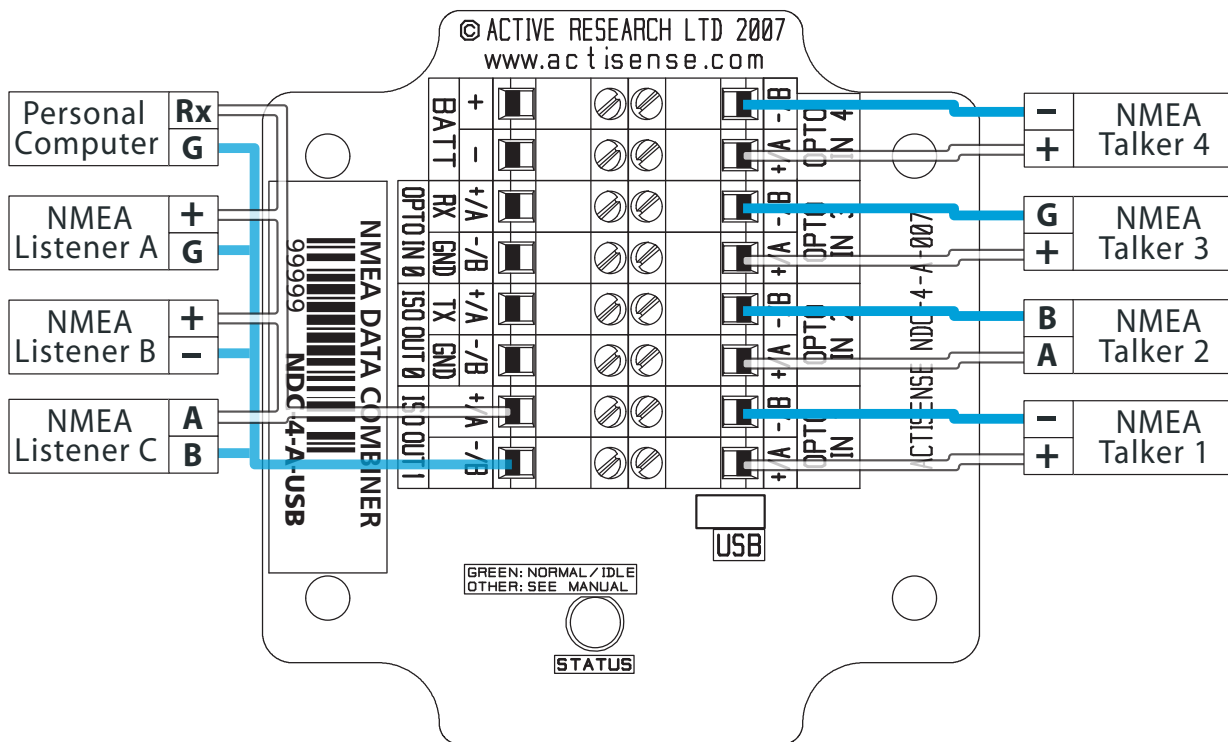

Figure 2 – NMEA 0183 connections
**NMEA Talker devices 1, 2 and 4:** These devices conform in full to the NMEA 0183 standard. Devices 1 and 4 share the same connection ID's as the **Actisense** NDC, so connection is a simple matter of matching the ID's (refer to figure 2). Device 2 uses the RS485 convention connection ID's. Simply connect 'A' to '+/A' and 'B' to '-/B' (refer to figure 2).